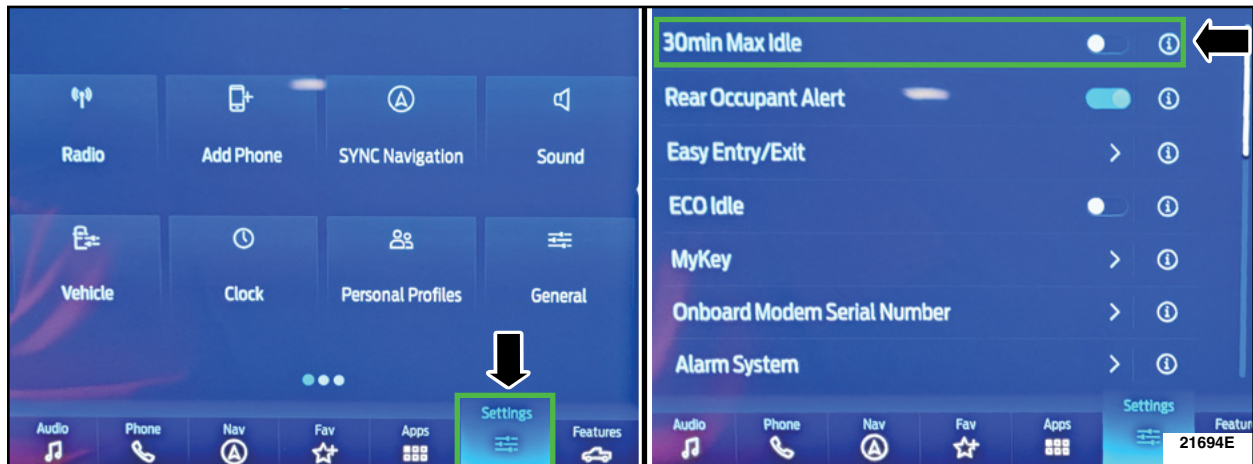

FIGURE 1
- From the center display press the vehicle settings button and turn off the 30 minute max idle setting. See Figure 1.